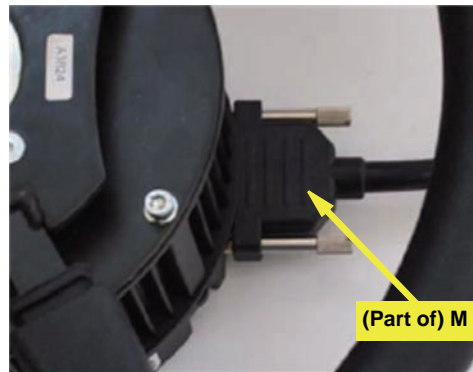

Figure 4b: Junction box commo cable connected to steering wheel assembly
- c. Clip the junction box **M** into place on its bracket **N** (not shown) then connect its 15-pin connector cable to the communications port on the steering wheel assembly (Figure 4b). Use clip **Q** suitably (not shown).